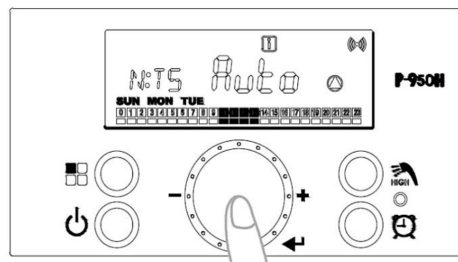

Figure 54 - Set Auto-Learn Recirculation Function
- c. Press the button at the "Auto" screen to select the Smart Auto-Learn Recirculation Function. See Figure 54.